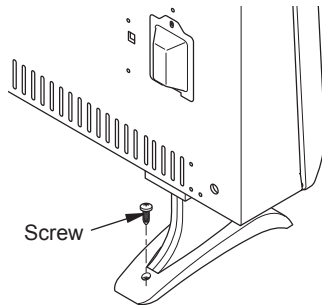

Figure 14 - Securing Heater to Floor
5. Position the heater to the desired location. Secure the base feet to the floor by using two Phillips head self tapping screws (provided) (see Figure 14).